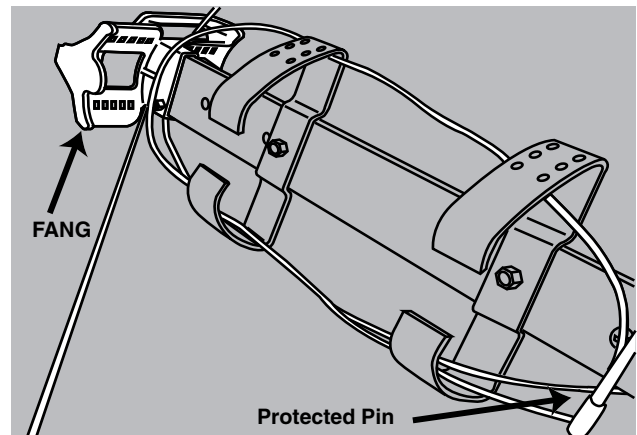
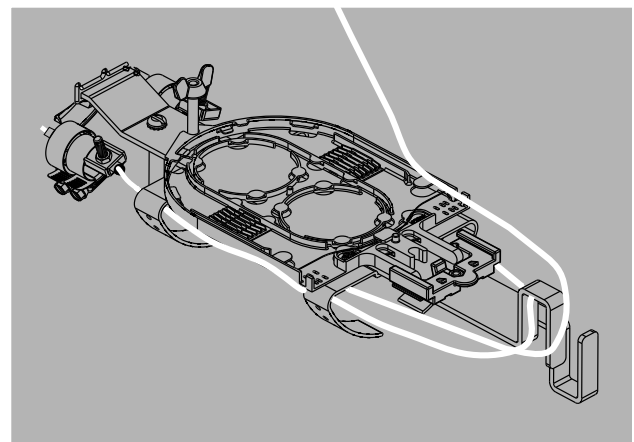
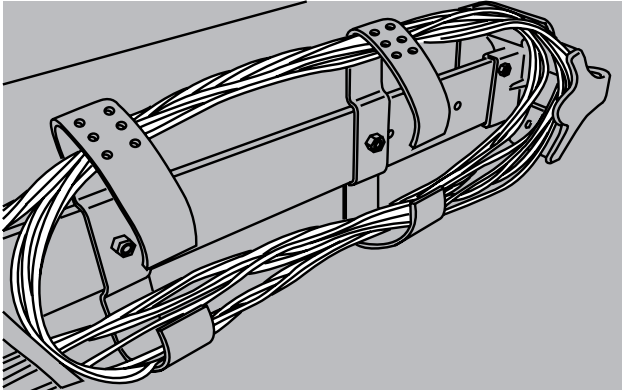

FIGURE 3
FIGURE 3a
FIGURE 20
3. Route the loose buffer tube inside the buffer tube bracket storage and management system keeping to the inside of the FANG™ Bracket (FG 800 & 650) or 500 Bracket (FG 500) and protected pin (End Plate end) until the final turn which passes through the outside guides of the FANG™ Bracket (Figure 3) or 500 Bracket. (Figure 3a.)
20. Once the SLIDE-N-LOCK splice tray is full, re-route the buffer tubes back through the organization system. Be sure to keep the FANG Brackets/500 Brackets and protected pin inside until the final lay-up onto the splice tray which is routed through the outside FANG guide (Figures 20 or 3) or 500 guide (Figure 3a).